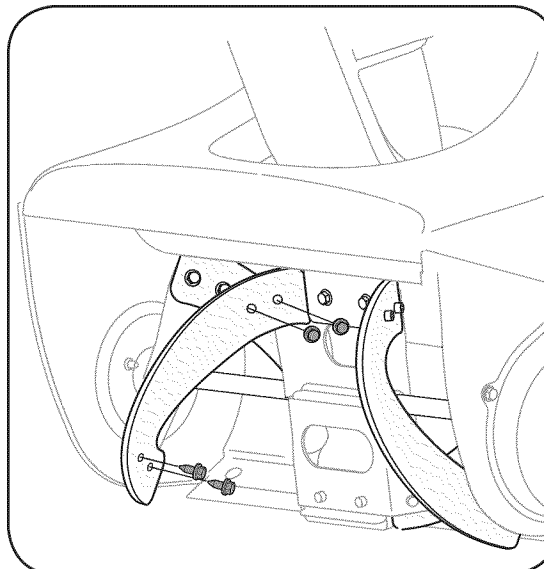

Figure 11
1. Remove the existing rubber paddles by unscrewing the self-tapping screws which secure them to the auger. See Figure 11.